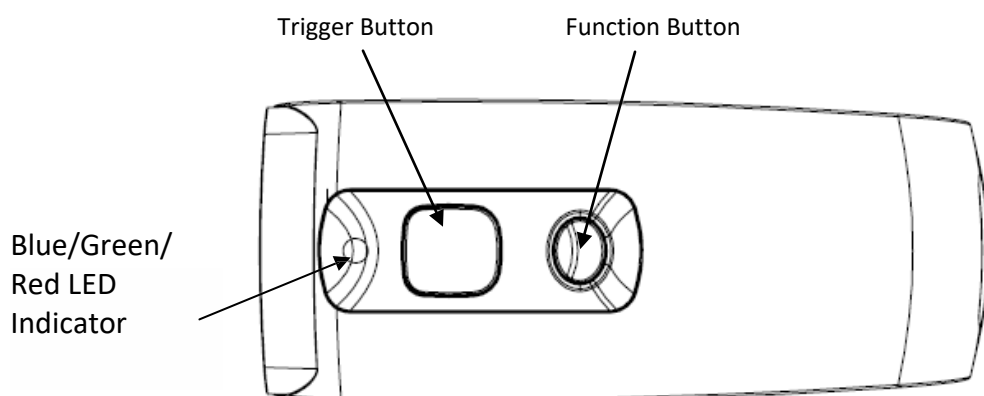

Figure 1-1: Trigger Button and Function Button positions
MR10A7's LED indicators use three colours: blue, green and red, as per Figure 1-1. In combination with the buzzer they indicate different conditions, in Configuration Mode.
Press the Trigger Button for 2 seconds without releasing, as per Figure 1-1. The unit will emit one (1) long beep and light the LED red. When the sound then stops and the light goes off, the reader successfully powers up.